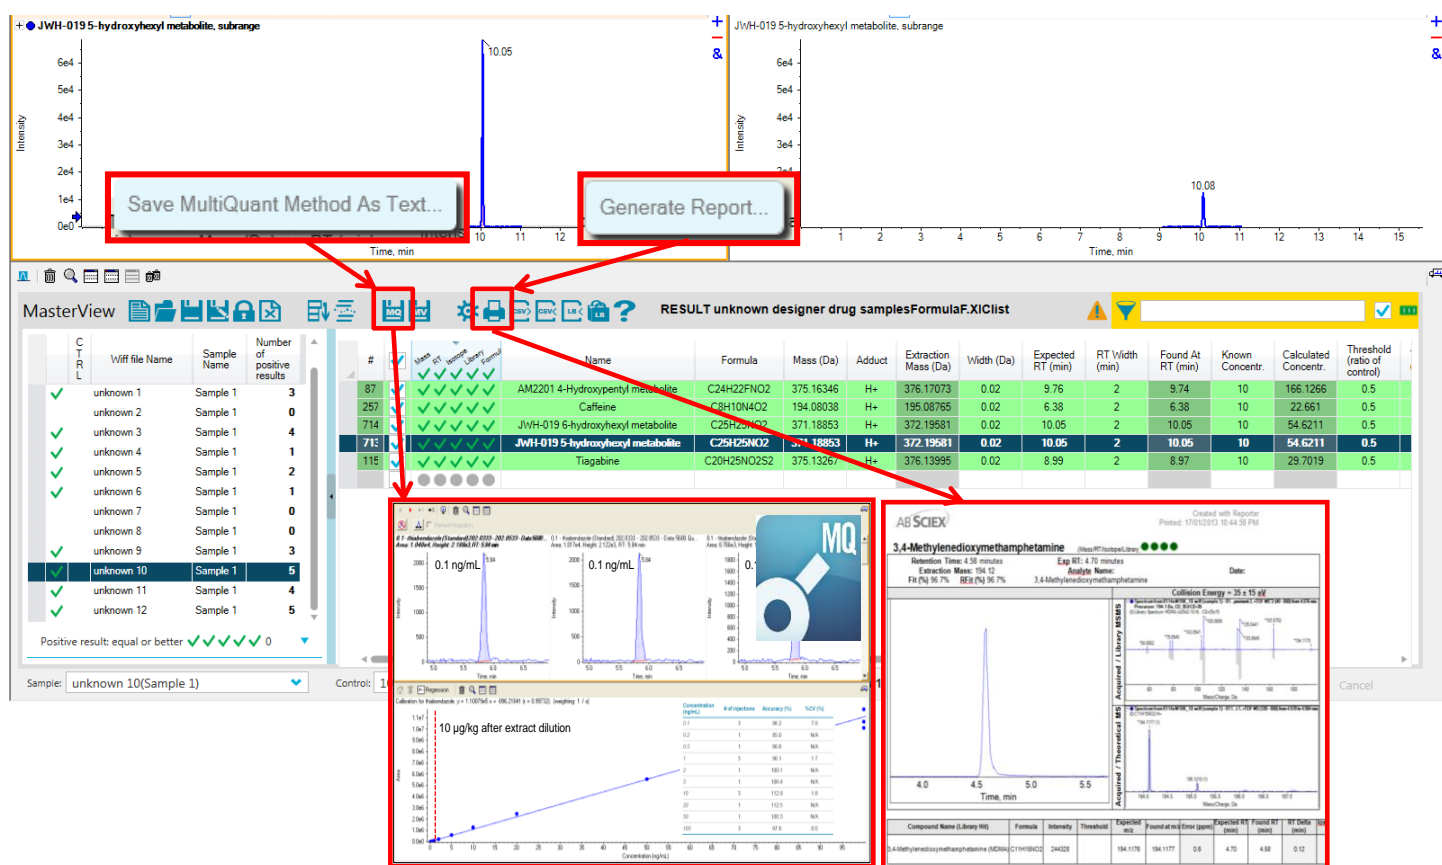

Figure 24. Quantitation through MultiQuant™ Software and Reporting
- And, of course if you identify a positive, the next step is to confirm the concentration via a full calibration curve. Masterview™ Software has a direct link to create a quantitation method that can be imported into MultiQuant™ software for fast quantitation if you also ran compound standards in your acquisition batch (Figure 24).
- Or the screening results can be quickly generated as a report (Figure 24).